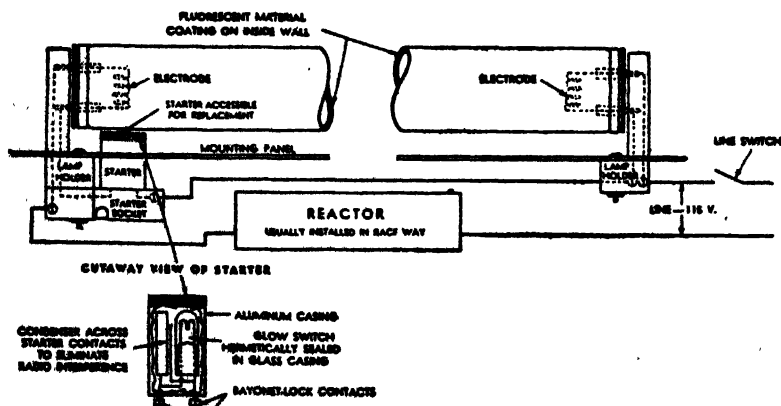

FIG. 5,225-18.—Schematic diagram of typical fluorescent lamp and circuit connections.
**Lamp Construction.**—Fluorescent lamps are tubular in shape and are usually provided with special two-pin bases at each end as illustrated in fig. 5,225-18. These pins are connected to the electrodes of the lamp which must be preheated before the lamp is started. They are manufactured in various lengths and wattages ranging from six watts nine inches to 100 watts and 60 inches in length.